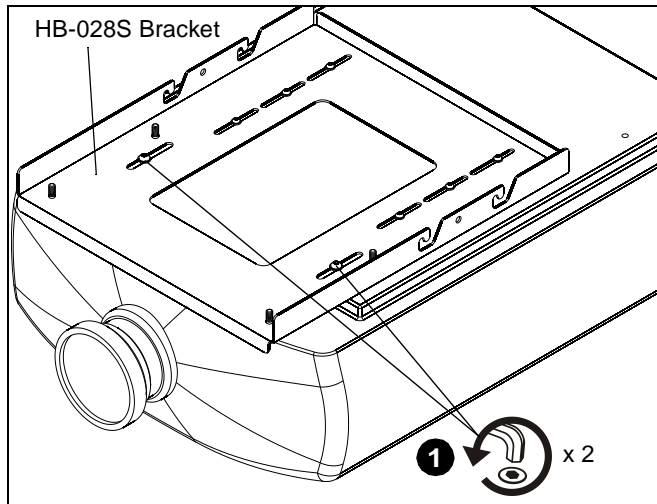

Figure 5
1. Remove and keep two M8 button head cap screws and M8 flat washers from front of HB bracket (if already installed). (See Figure 5)